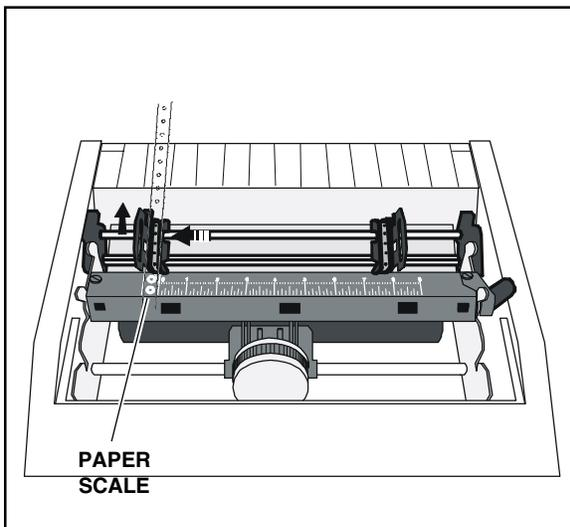

Figure 3-5. Aligning & Locking the Left Tractor
5. Slide the left tractor as needed so that the pin belt aligns with the circles on the paper scale (). Then, lock the left tractor into place, as shown in figure 3-5.
6. Open both tractor doors, as shown in figure 3-5.